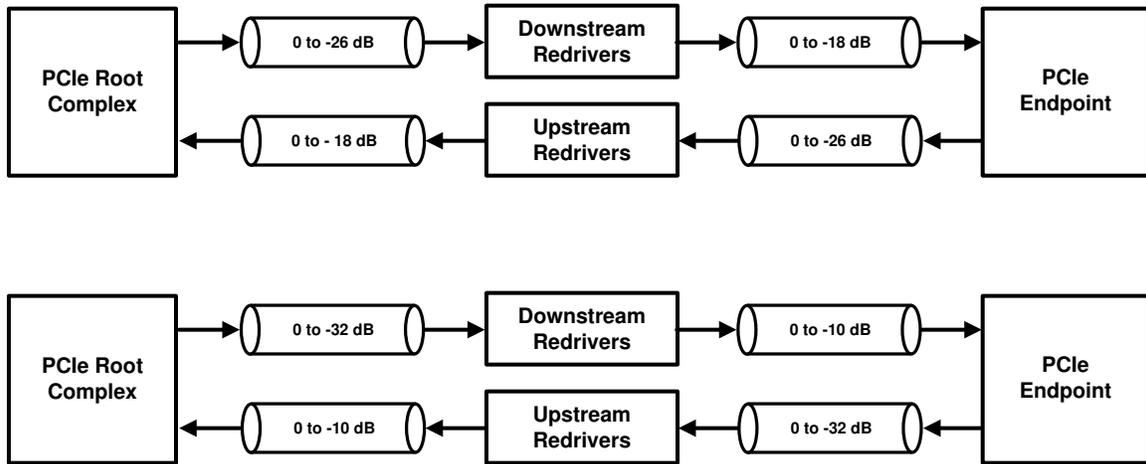

Figure 5-2. Redriver Placement Options: Upstream and Downstream Redrivers at Different Locations
- Placing upstream and downstream redrivers in different locations is also possible, as shown in Figure 5-2, however, it may be impractical for most systems.